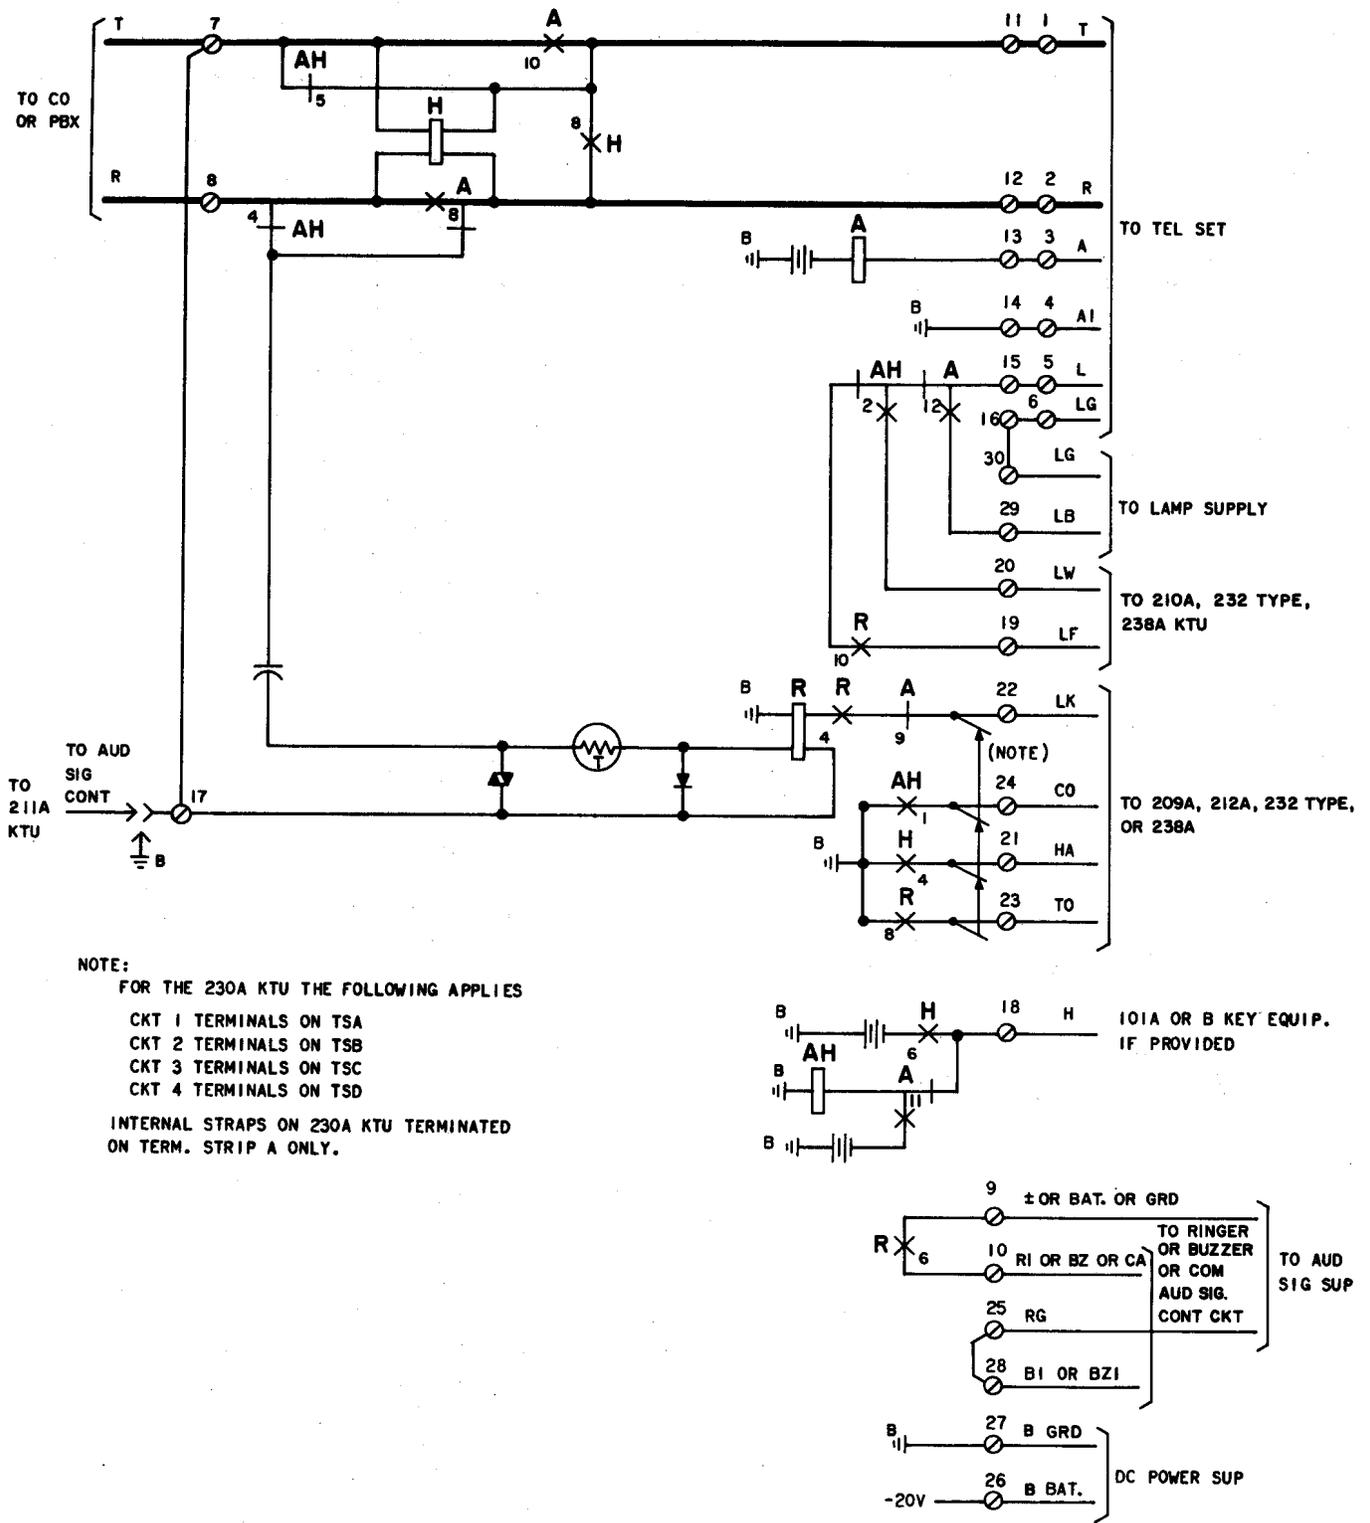
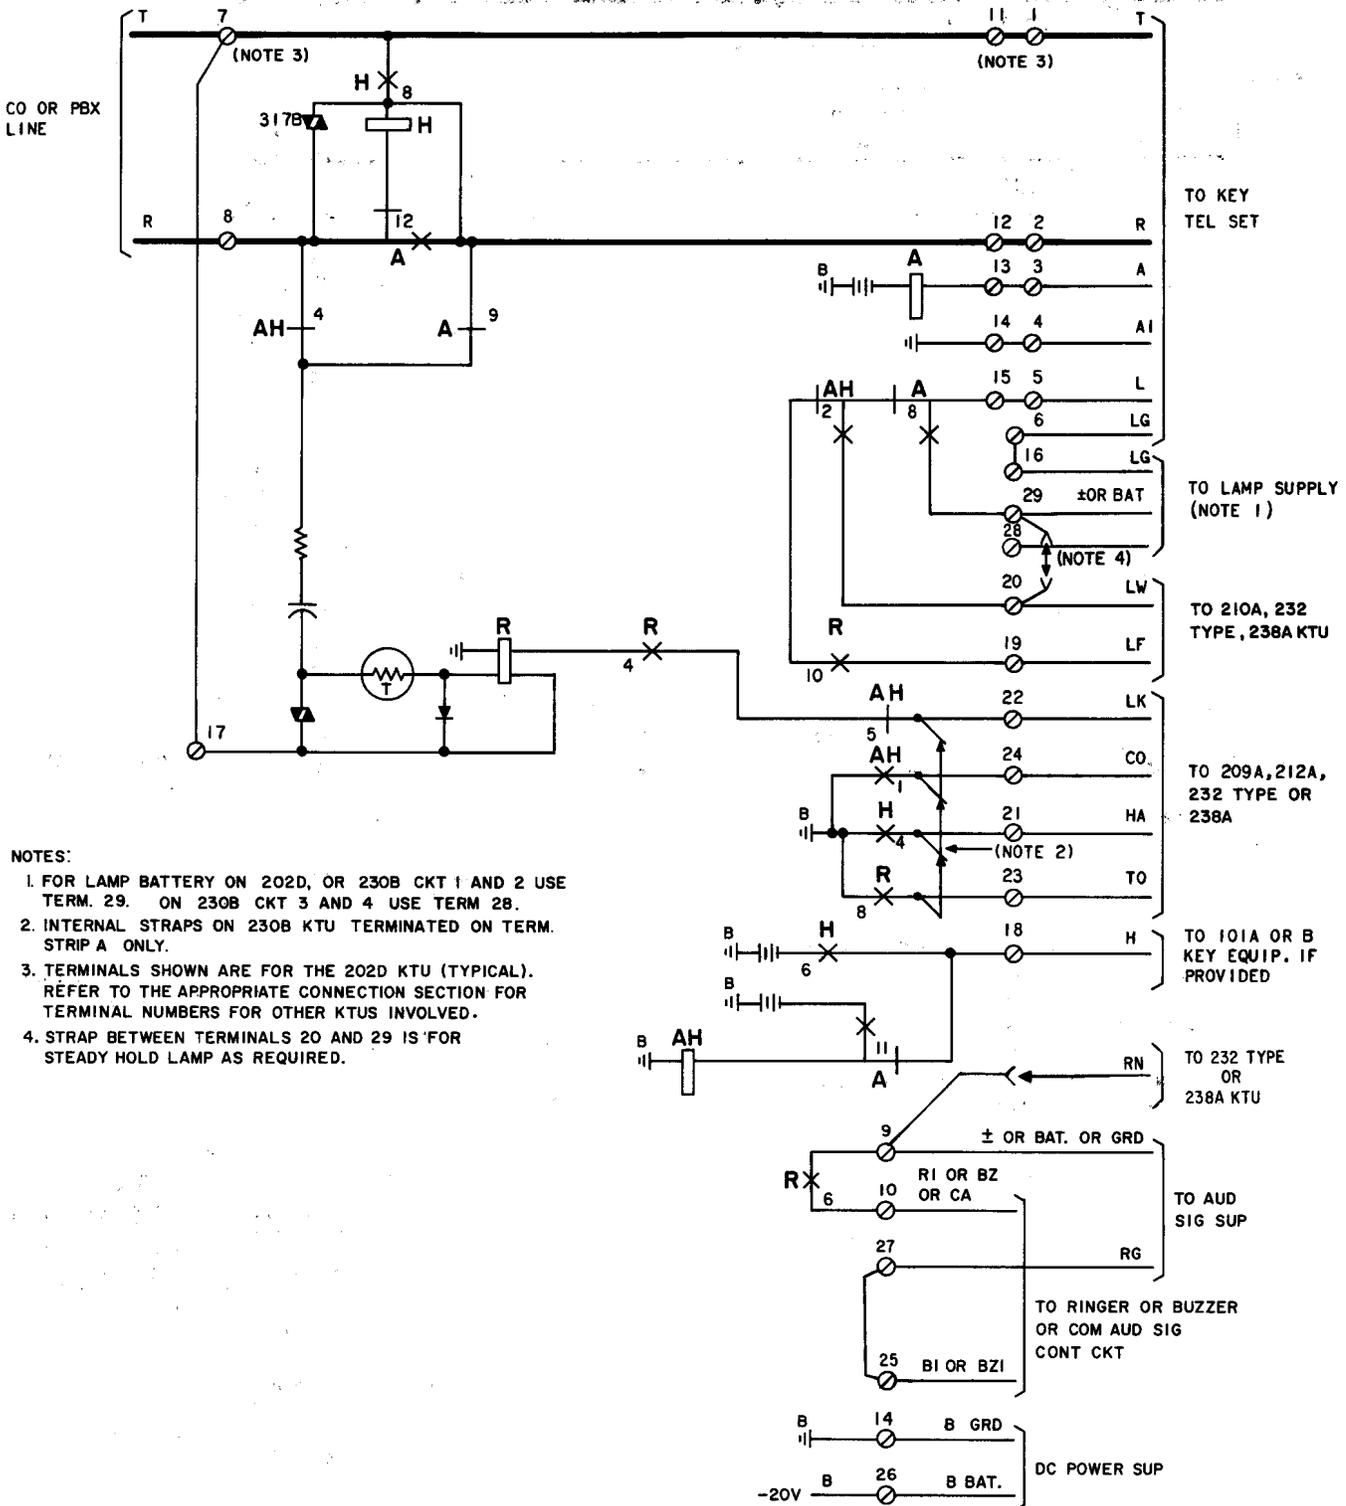

Fig. 3—Functional Schematic of 202C (MD) and 230A KTU (MD) (CO or PBX Line Circuit)
Fig. 4—Functional Schematic of 202D, 230B, 238A (Line Circuit Portion) and 239A KTUs (CO or PBX Line Circuit)
2.06 The 202C (Fig. 3) and 202D KTUs (Fig. 4) are arranged for metallic or grounded ringing.
N. 230A (MD) and 230B KTU (CO or PBX Line Circuit)
2.20 The 230A KTU (Fig. 3) is the equivalent of five 202C line circuits, and the 230B KTU (Fig. 4) is the equivalent of four 202D line circuits.
O. 232A (MD), 232B (MD), and 232C (MD) KTU (Electro-Mechanical Flash, Wink, Ring, and Time-Out Circuit)
2.25 The 238A KTU (Fig. 16) is the equivalent of nine 202D (Fig. 4) KTUs. It also contains circuitry to provide all the functions of the 232A or 232B KTUs (see paragraph 2.21).
2.26 The 239A KTU is the equivalent of eleven 202D (Fig. 4) KTUs. The 239A KTU is arranged in line groups of 4-4-3 and each line group can be associated with its own time-out and auxiliary interrupter equipment.